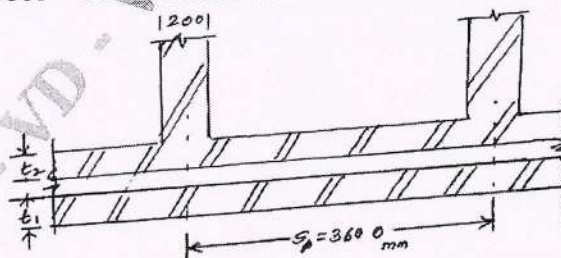

Fig. Q6 (b)
- b. Design an interior cavity wall for three storeyed building the ceiling height of each storey being 3.0 m. The wall is stiffened by intersecting walls 200 mm thick at 3600 mm centre to centre. Both top and bottom of wall are fully restraint. Assume loading from roof = 16 kN/m and from each floor = 12.5 kN/m. Refer Fig. Q6 (b).